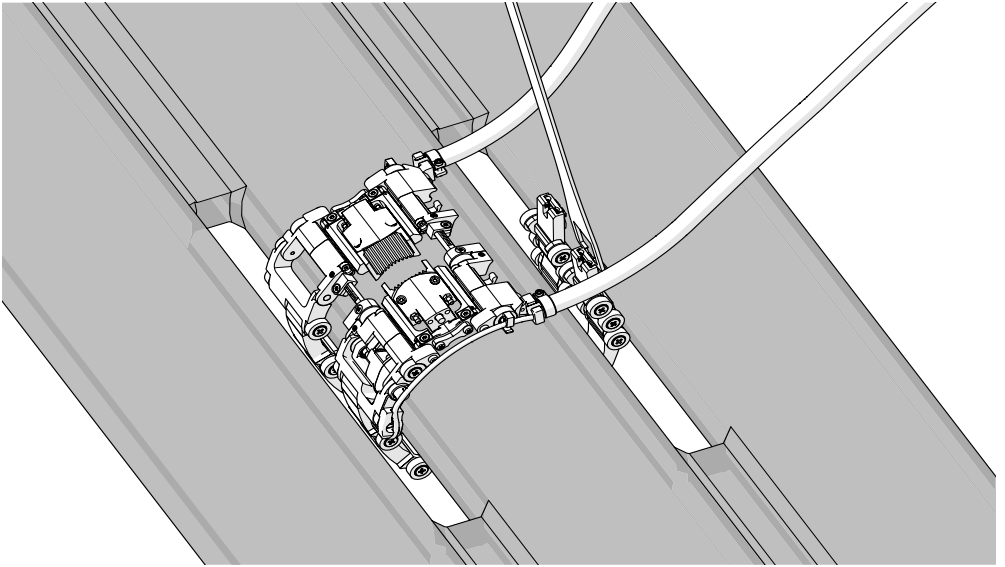
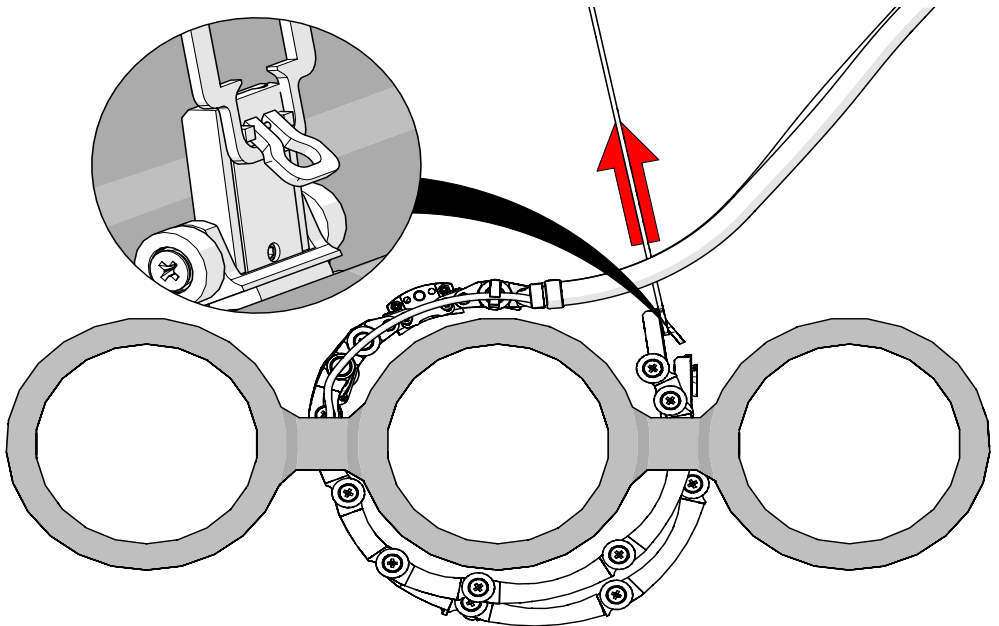

Fig. 94 - Bring latch towards the latch hook
Fig. 95 - Bring latch towards the latch hook
5. Bring the latch around the scan surface (*Fig. 94*) and (*Fig. 95*).